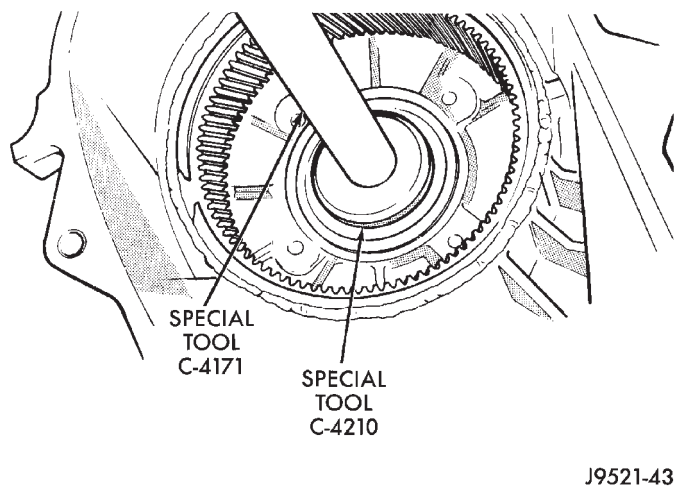

Fig. 40 Input Gear Bearing Removal
(6) Remove input gear bearing with Tool Handle C-4171 and Remover C-4210 (Fig. 40).